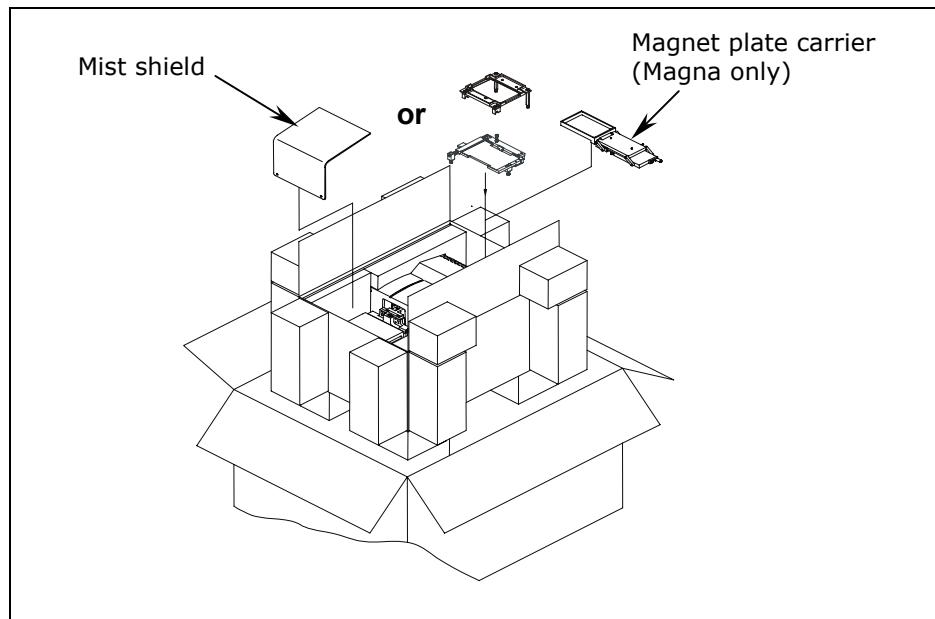

Figure 3: Removing the Carrier and Other Accessories
4. Remove the mist shield, model-specific carrier, shipping document kit, and other accessories (**Figure 3**) listed in **Package Contents, Chapter 1**.